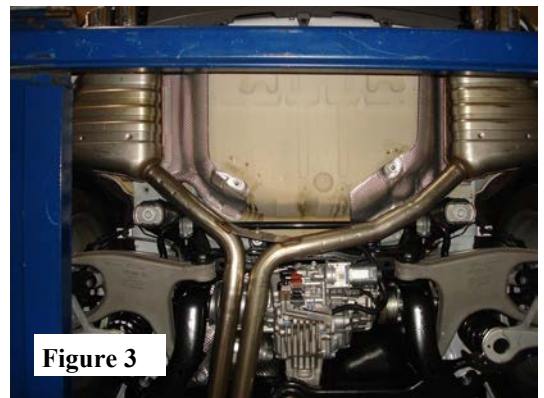

Figure 3
4. Support exhaust system with muffler stands. Starting from front and working backwards, carefully remove hangers from rubber isolators. Remove factory exhaust as shown. (See Figs. 3 & 4)